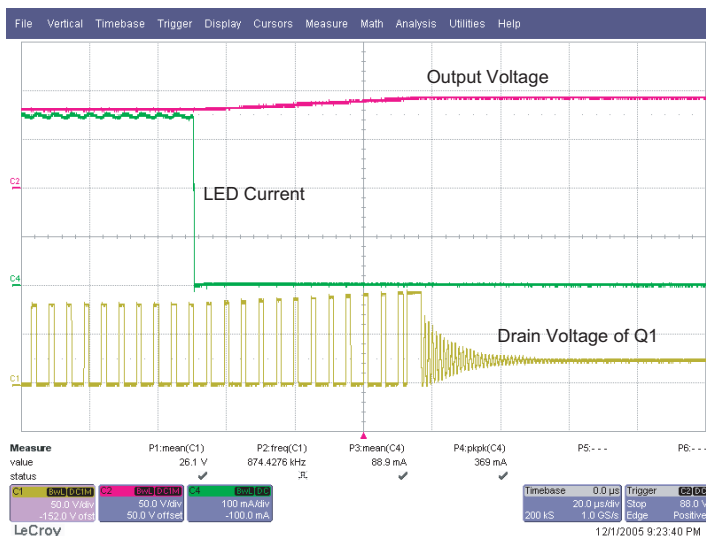

Fig. 6: Open LED Protection (20μs/div)
4. Open LED Protection: Open LED protection for the circuit is set at 92V. The waveforms in Fig. 6 show the output voltage, drain voltage and output current during an open LED condition. The time taken for the over voltage protection to shut the IC down will depend on the size of the output capacitor.